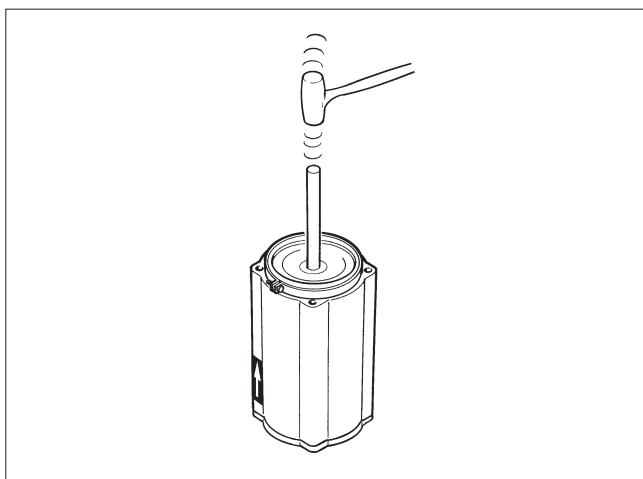

Fig. 19 Placing the piston in the cylinder
- Hammer or press the piston into the cylinder through the tie ring. Note the indicator arrow direction. See Fig. 19.
- Install new cylinder base O-rings (19). Replace cylinder with piston.
- Apply sealant, e.g. Loctite 225, to the bearing unit screw (29) thread and tighten the screw as in Table 2 before mounting onto cylinder base.